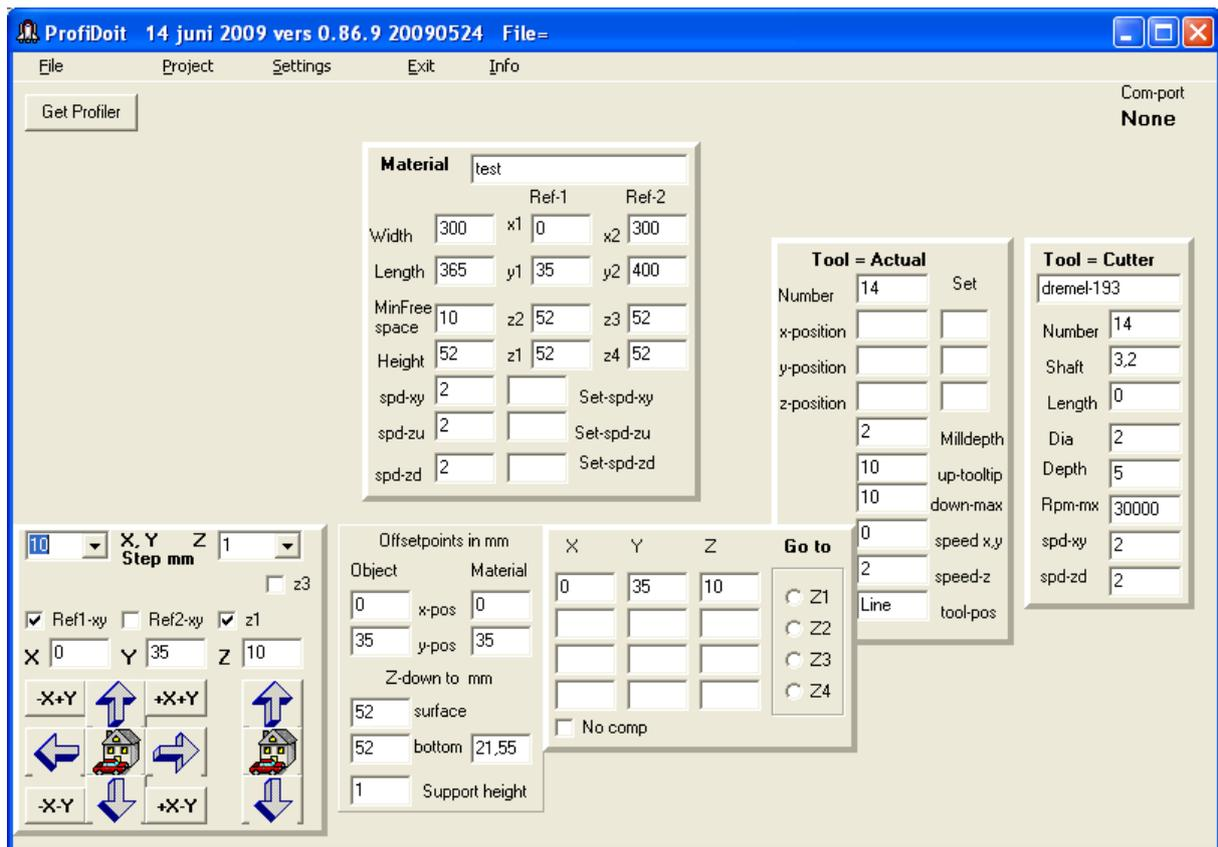

fig. 3.1.2 Materials and height settings (f2-090614)
- 4. Fig. 3.1.2 Materials and height settings.